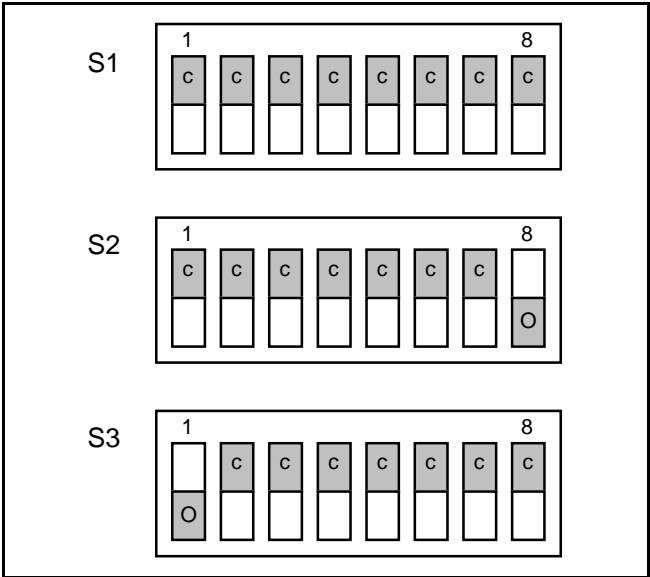

Figure 7 - Test Mode, Low Speed Data/Repeat
To set the transmitter deviation for low speed, the station must be placed in the low speed data test mode. (Refer to Figure 7 for GETC dip switch positioning.) The test mode routes receiver audio and low speed data from the GETC to the transmitter. Be sure that the receiver is squelched when making this adjustment because the receive audio (if any) is still routed to the transmitter.
4. Enter the test mode by configuring the GETC dip switches as shown in Figure 7.